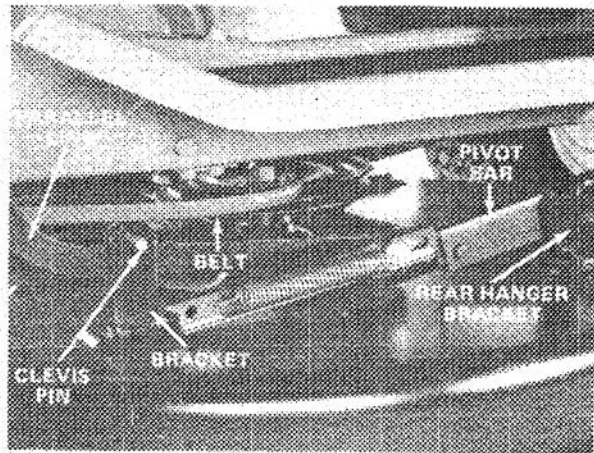

Figure 34
4. Slip the cutting unit drive belt around the spindle drive pulley, then lift the rear of the cutting unit and position the rear hanger brackets so they just rest over the top of the pins extending out from the pivot bar (Fig. 34). Insure belt is installed on front engine pulley.